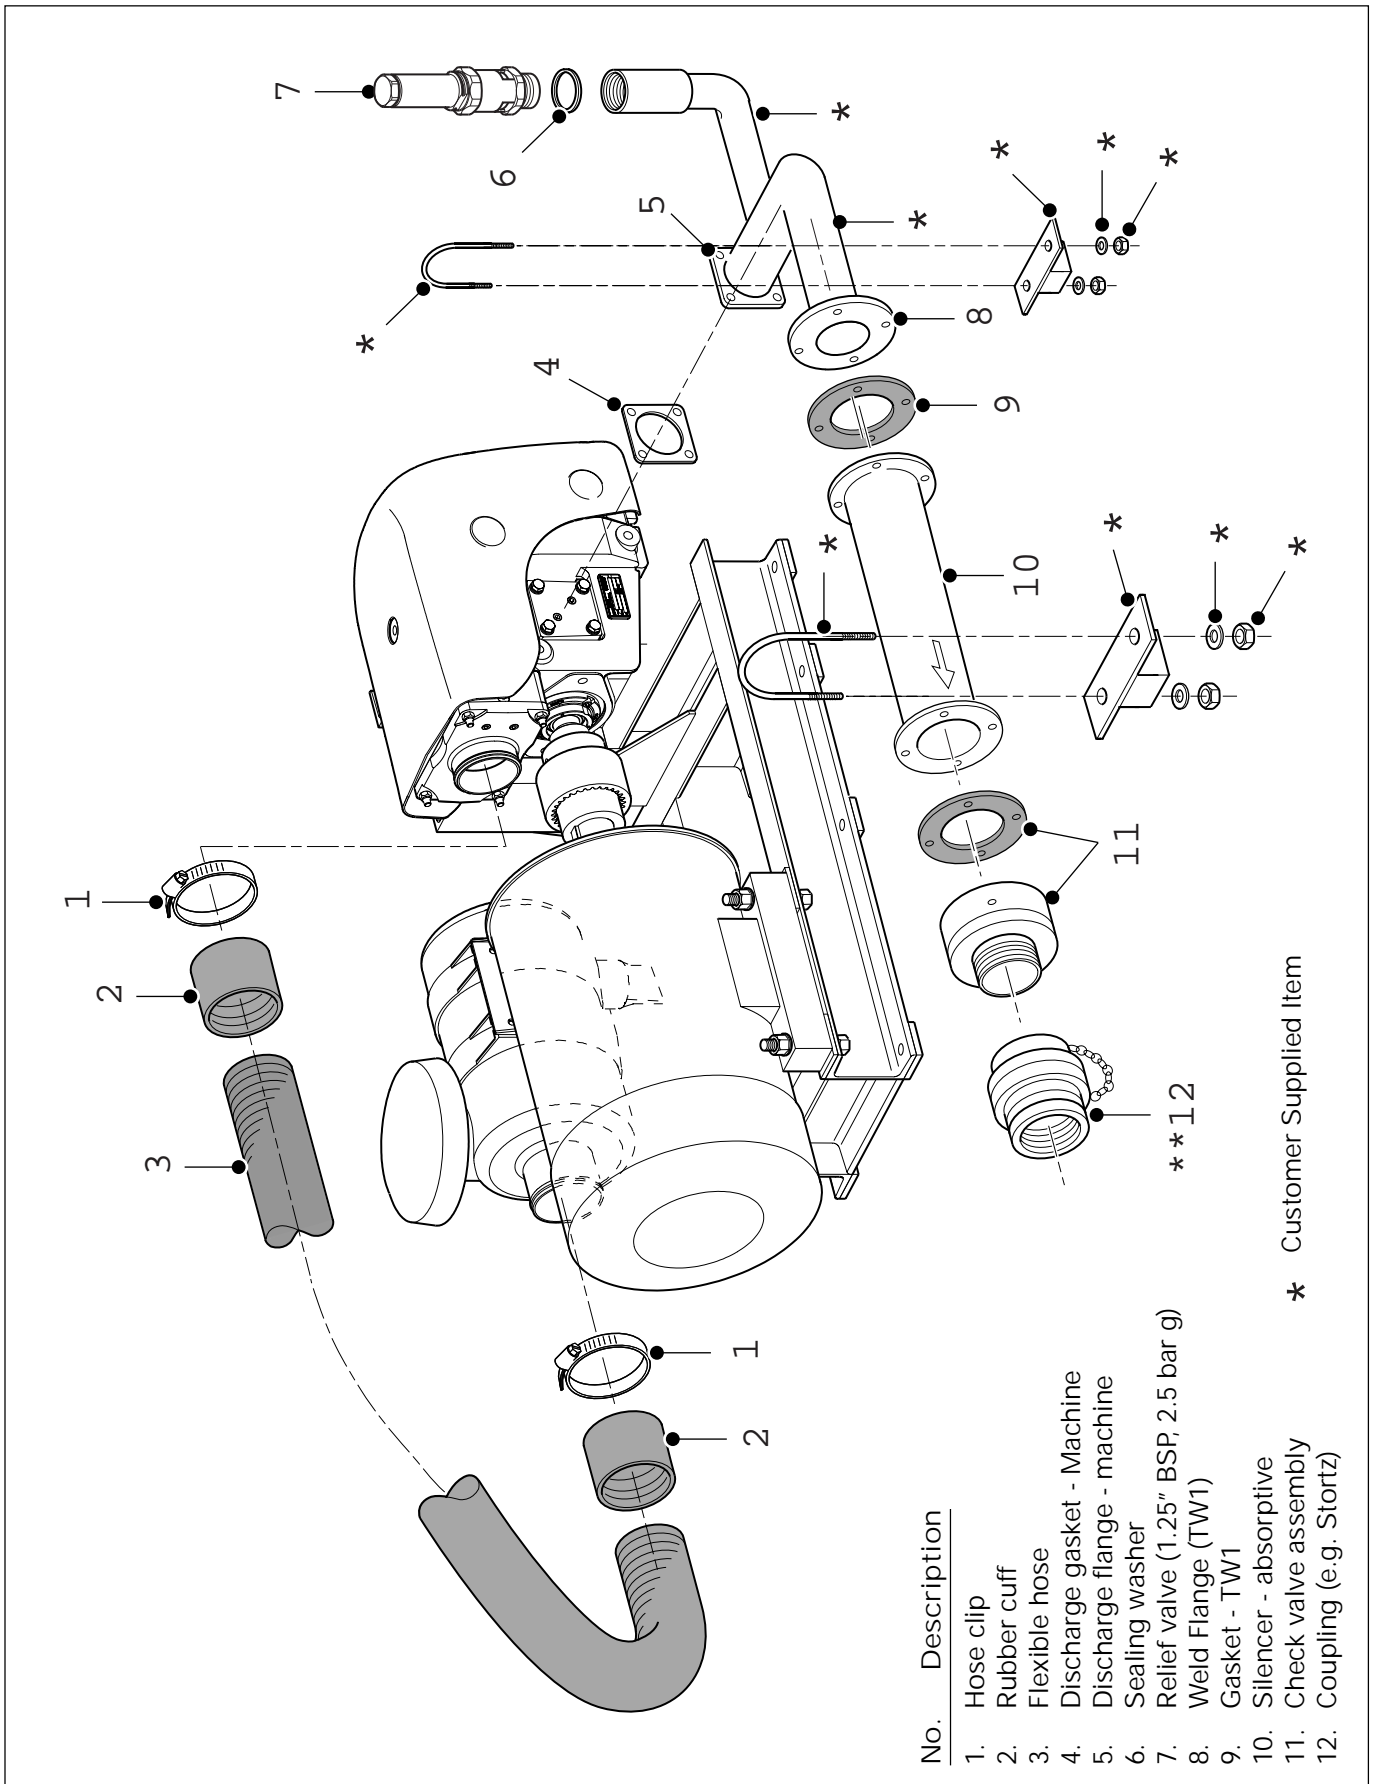

Figure 5. Pipework Connections
1.5 Pipework connections -General (see fig. 5)
For the recommended layout of the machine and ancillaries, see figure 5.
Silencers should be mounted/supported separately (see figs 5 and 6) to prevent the generation of loads on the machine and discharge port due to weight or temperature expansion. Flexibility in the mounting or connecting pipe work to the silencer should be incorporated where this could occur.